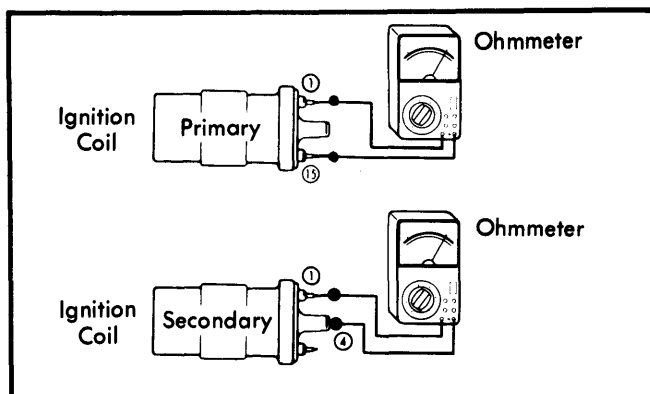

Fig. 6 Ohmmeter Hookups for Coil Resistance Checks
1) Remove all wires from ignition coil. Set an ohmmeter in the low scale and attach its leads to ignition coil primary terminals 1 and 15. See Fig. 6. Coil primary resistance should be .52-.76 ohm.
2) Reset ohmmeter to x1000 scale and connect leads to primary terminal 1 and to coil tower, terminal 4. See Fig. 6. Resistance should read 2400-3500 ohms.